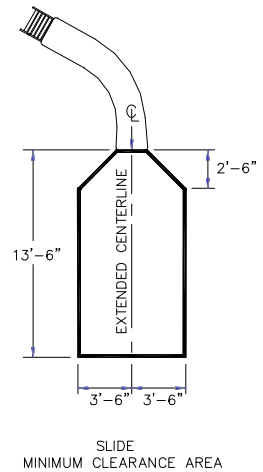

FIG. 3
- A. The minimum clearance distance on either side of the extended centerline of the slide runway shall not be less than three feet six inches (3'-6") at a point no less than two feet six inches (2'-6") from the exit lip of the slide and extending a distance of thirteen feet six inches (13'-6") in front of the slide as shown in FIG. 3.
See Article 5 contained in ANSI/APSP/ICC-5 2011 STANDARD FOR RESIDENTIAL INGROUND SWIMMING POOLS and refer to FIGURE 3 and Table 1 for Minimum Water Envelope Dimensions AB, BC and Width at Point C.